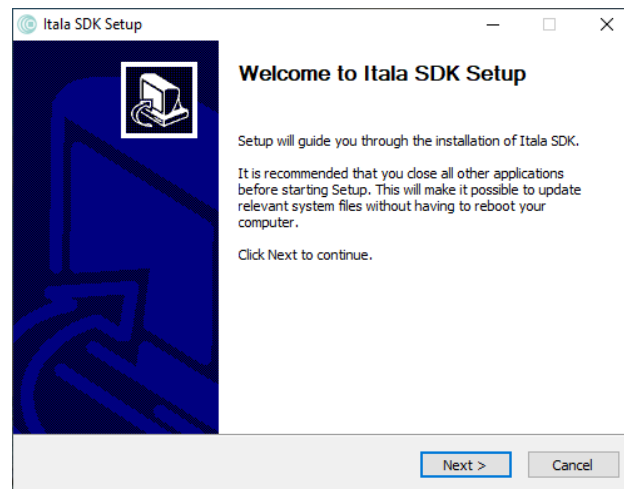

Figure 9: Itala SDK setup window.
2. The Itala SDK setup window is displayed: make sure to follow the instructions listed (Fig.9).